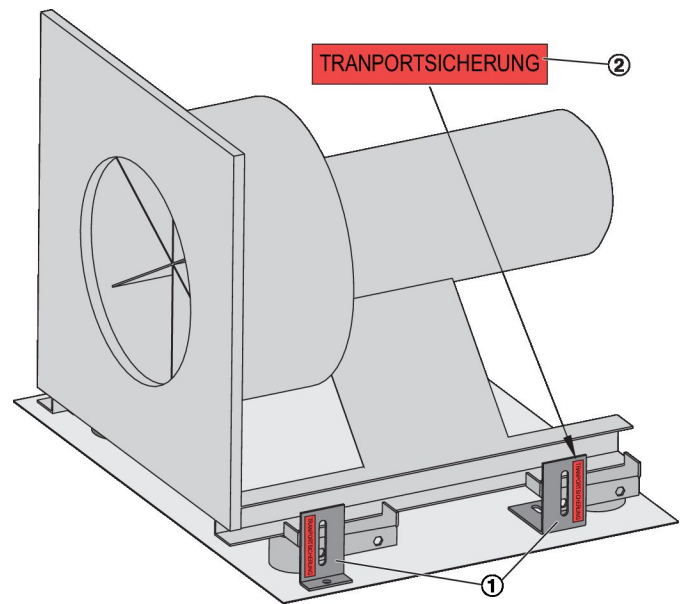

Fig. 9: Transport protection brackets
1. ▶ Remove the brackets ( Fig. 9 /1) that are marked with a red sticker ( Fig. 9 /2).